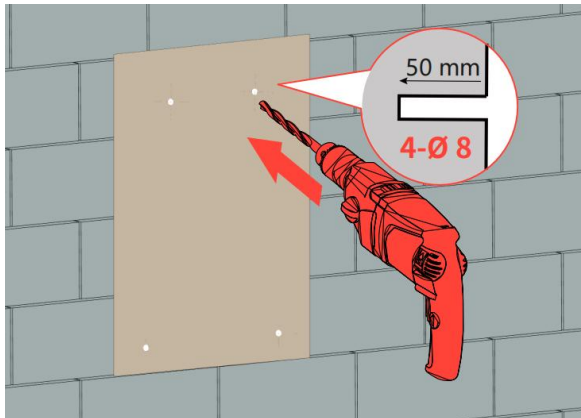

Figure 4-8 Mark the drill holes
- (2) Drill 4 holes with a diameter of 8mm and a depth of 50mm on the wall using an impact drill, install  $\phi 8 \times 40$  expansion tubes in 4 holes. First put the top two expansion tubes into self-tapping screws (note: the top two self-tapping screws flange end distance is reserved about 6mm distance from the wall, the cover key can be used to auxiliary calibration distance), as shown in Figure 4-8 and 4-9.